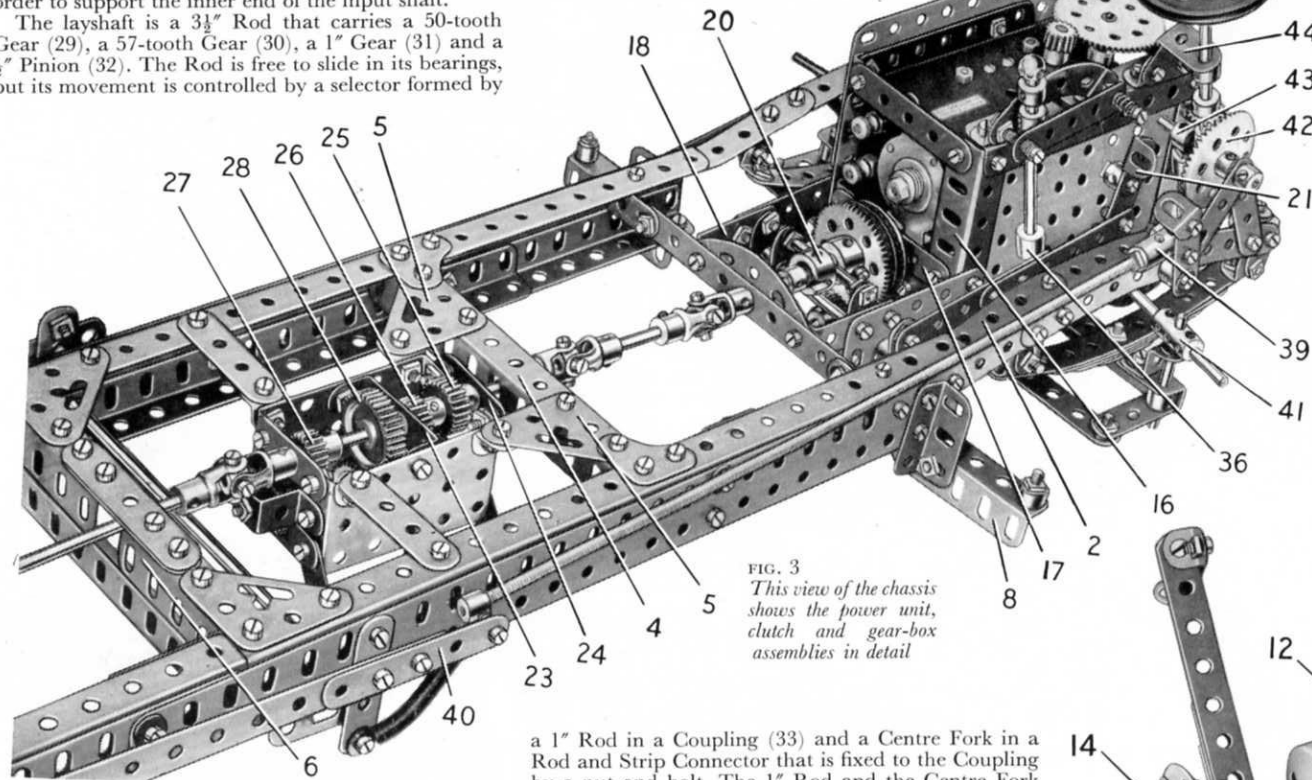

FIG. 3
The gear-box is shown separately in Fig. 5. The housing consists of two $2\frac{1}{2}'' \times 1\frac{1}{2}''$ Flanged Plates connected by a $\frac{1}{2}'' \times \frac{1}{2}''$ Double Angle Strip (23) and joined at each end by two $\frac{1}{4}''$ Strips. One of these Strips, indicated at (24) (Fig. 3), is spaced from the Flanged Plates by three Washers on each of the $\frac{3}{8}''$ Bolts that holds it in position.
The gear selector lever is fixed at its lower end in a Rod Socket (36) (Fig. 3). The shank of the Rod Socket is screwed tightly into a Collar on a $3\frac{1}{2}$ " Rod (37) (Fig. 2), which is mounted in the engine unit and carries a Crank. A Strip Coupling (38) is pivotally attached to the Crank by a $\frac{1}{2}$ " Bolt, and is connected to the Rod (34) by a $4\frac{1}{2}$ " Rod, two Couplings and a Flexible Coupling Unit.
The brake pedal is made by bolting an Angle Bracket to a Crank pivoted on a $\frac{1}{2}$ " Bolt attached to the chassis by two nuts (see Figs. 3 and 6). A Threaded Coupling (39) is locked by two nuts on a $\frac{3}{4}$ " Bolt passed freely through the Crank, and an $11\frac{1}{2}$ " Screw Rod is fixed in the Threaded Coupling by a nut. A Collar is fixed on the rear end of the Screw Rod by a $\frac{3}{8}$ " Bolt, which is passed through the end hole of a built-up strip (40). This strip consists of a $9\frac{1}{2}$ " and a $2\frac{1}{2}$ " Strip overlapped three holes, and its rear end is lock-nutted to a $\frac{3}{8}$ " Bolt passed through the Fishplate (13) (Fig. 6) of one of the brakes.
The strip (40) is pivotally connected to one arm of a Bell Crank (Fig. 3) by a lock-nutted $\frac{3}{8}$ " Bolt, and a 2" Strip is also bolted to this arm. A Spring is fitted between the lower end of the 2" Strip and the $\frac{3}{8}$ " Bolt in the Collar at the end of the $11\frac{1}{2}$ " Screw Rod. The Bell Crank is fixed on one end of a $6\frac{1}{2}$ " Rod mounted across the chassis, and another Bell Crank is secured to the other end of the Rod. A 2" Strip is bolted to the second Bell Crank and a Spring is fitted between the lower end of this Strip and the chassis. A $9\frac{1}{2}$ " Strip is lock-nutted to the Bell Crank and to the Fishplate (13) of one of the brakes, in the same way as the strip (40).
Each front wheel is freely mounted on a 1" Rod fixed in a Coupling (41) (Figs. 3 and 6). The wheels are held on the Rods by Collars. The Couplings (41) are fixed on 2" Rods supported in the ends of the axle beam and in the $\frac{1}{2}$ " Reversed Angle Brackets. Cranks fitted to the lower ends of the 2" Rods are connected by a $7\frac{1}{2}$ " Strip pivoted on lock-nutted bolts.